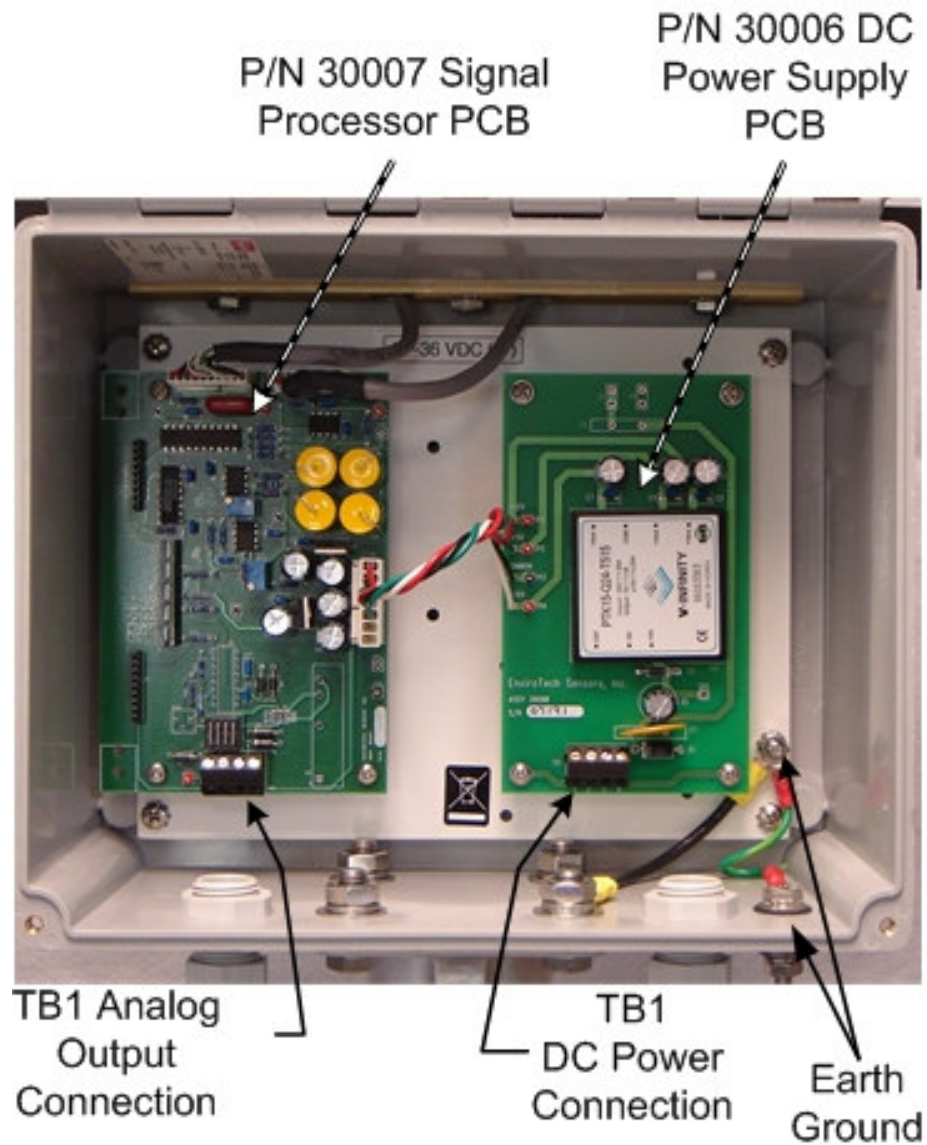

Figure 1.3-3 Main Enclosure Components (DC Power Version)
- DC Power Version – See Table 1.3-3 and Figure 1.3-3 below: